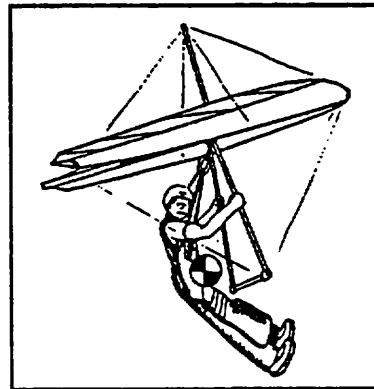

Figure 74
b) Improper body position - pilot leaning back, (away from the anticipated hard landing), with feet extended in front. (Figure 74) This moves the pilot's center of mass forward ahead of his shoulders, effectively shortening the pilot's arms and reducing flare authority. The proper position is with the pilot's body inclined forward, with the shoulders out ahead of the pilot's center of mass. Thinking about pushing "up" instead of "out" when flaring may help you to maintain the proper forward inclined body position.